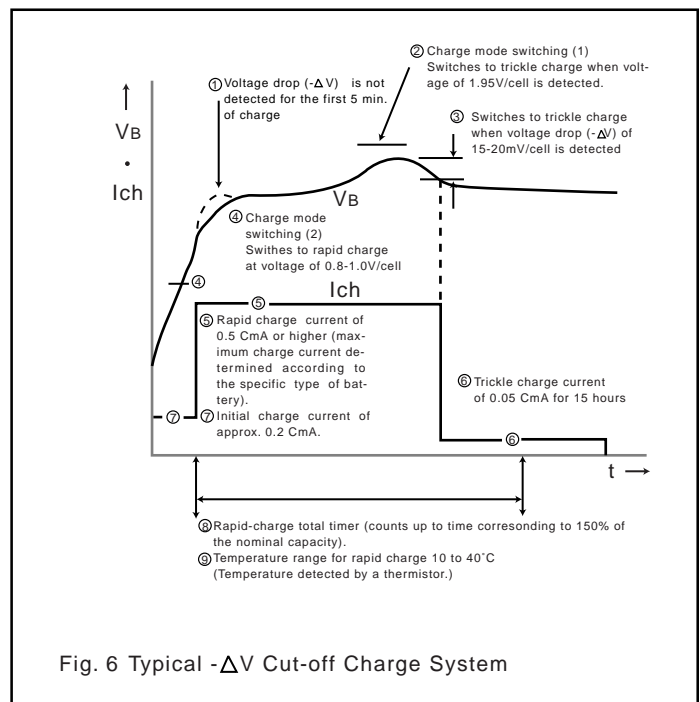

Fig. 6 Typical  $-\Delta V$  Cut-off Charge System
- The charge current should be 0.5 CmA ~ 1 CmA. If charged at less than 0.5 CmA, the voltage drop after the peak voltage is reached might be too small for the  $-\Delta V$  cut-off to function, resulting in overcharge. The maximum charge current will vary according to the specific type of battery, so it is important to select the appropriate charge current. (See (5) in Fig. 6)
**False  $-\Delta V$  phenomenon:** When Ni-Cd batteries are left unused for a long period of time or excessively discharged, the charge voltage (false  $-\Delta V$ ) may swing at the beginning of charge. (See (1) in Fig 6)
- Be sure that the  $-\Delta V$  value is correct. If it is not, faulty operation (overcharge or insufficient charge) of the charger might occur. (See (1) in Fig. 6)
- A voltage detection switch must be provided in order to change from the rapid-charge current to the trickle charge current when the charge voltage reaches the predetermined level. This predetermined level varies according to the type of battery, so consult Panasonic for the specific level. The trickle charge current should be 0.05 CmA. (See (2) and (6) in Fig. 6)
predetermined level, set the charge current to approximately 0.2 CmA. (See (5) and (7) in Fig. 6)
- Provide a total timer in the charge circuit as a double-safety control. (See (8) in Fig. 6)
- Especially for devices where charge is frequently performed at high temperatures or low temperatures (for example, chargers designed to be used in an automobile), in order to increase charge reliability, the charger is provided with a function that detects the temperature of the batteries and switches to trickle charge if the temperature is not within the specified range for rapid charge. Therefore, a thermistor or other temperature-detecting element must be provided inside the battery pack, and the battery pack will have a 3-terminal construction. (See (9) in Fig. 6 and Fig. 7)